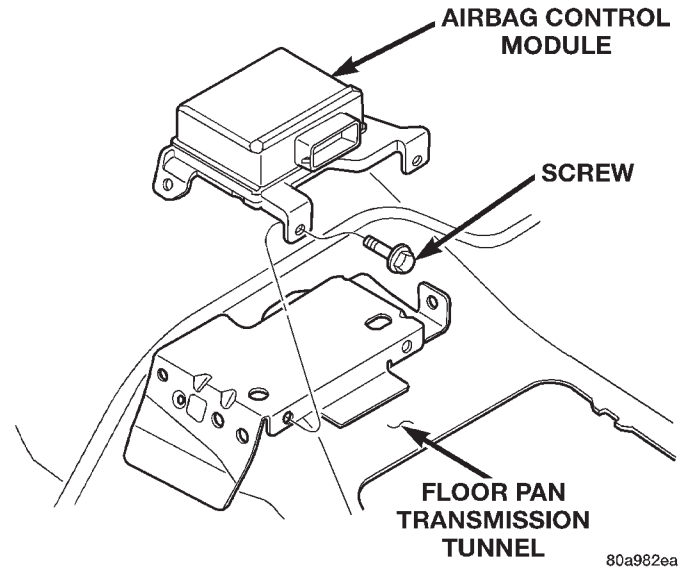

Fig. 13 Airbag Control Module Remove/Install
(5) Remove the three screws that secure the ACM mounting bracket to the floor panel transmission tunnel (Fig. 13).
(6) Remove the ACM and its mounting bracket as a unit from the floor panel.
(7) When installing the ACM, position the unit with the arrow on the ACM housing pointing forward.